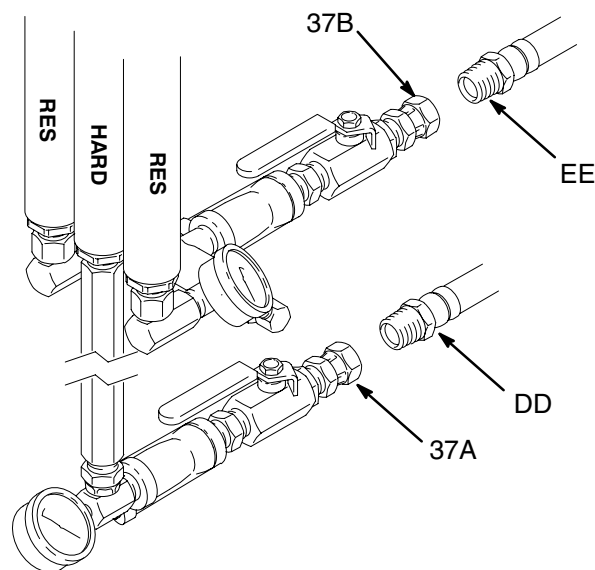

Fig. 5
NOTE: If you mount the pump on a wall, turn the displacement pump inlet assemblies (CC) to face forward, rather than backwards as shown in Fig. 5.
1. Connect the resin supply hose (EE) to the 3/4 npt swivel inlet (37B) for the resin displacement pumps. See Fig. 5.
2. Connect the hardener supply hose (DD) to the 3/4 npt swivel inlet (37) for the center (hardener) displacement pump. See Fig. 5.